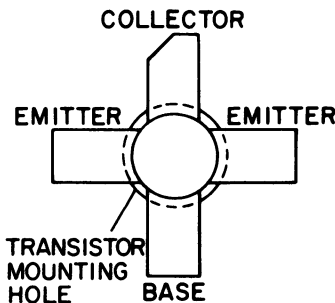

Figure 4 - Lead Identification
4. Trim the new transistor leads (if required) to approximately 3/8-inch lengths. Cut the collector lead at a 45° angle for future identification (see Figure 4). The letter "C" on the top of the transistor indicates the collector.